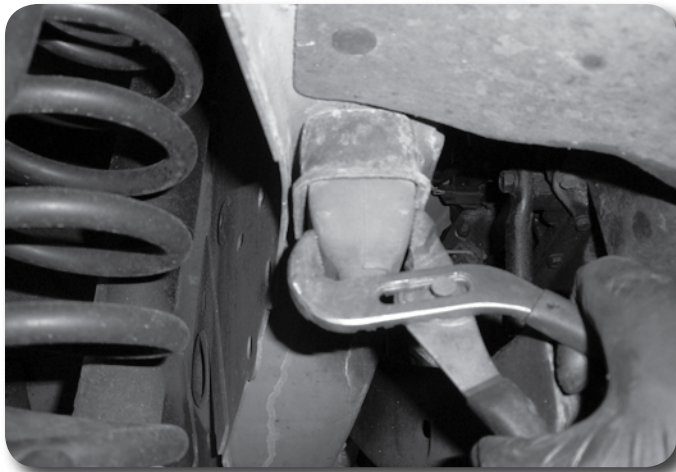

Figure 4
9. Remove the factory rubber bump stops from the bump stop retainers on each frame rail. Depending on the condition of the bump stops they normally can be removed with a pair of channel lock pliers and/or a flat blade screw driver. **Figure 4** Save bump stops.